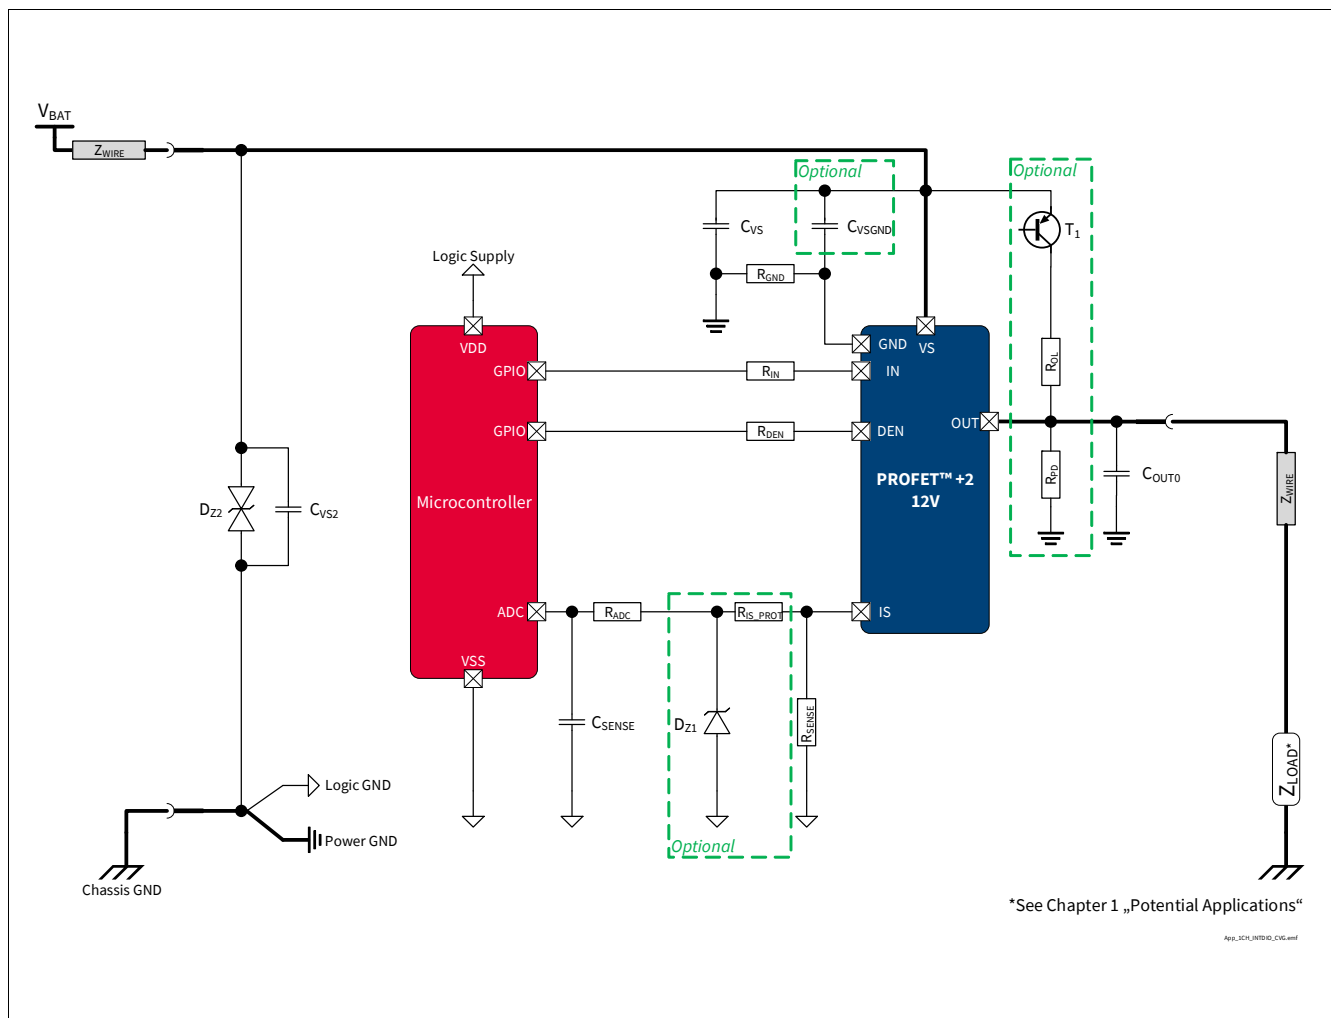
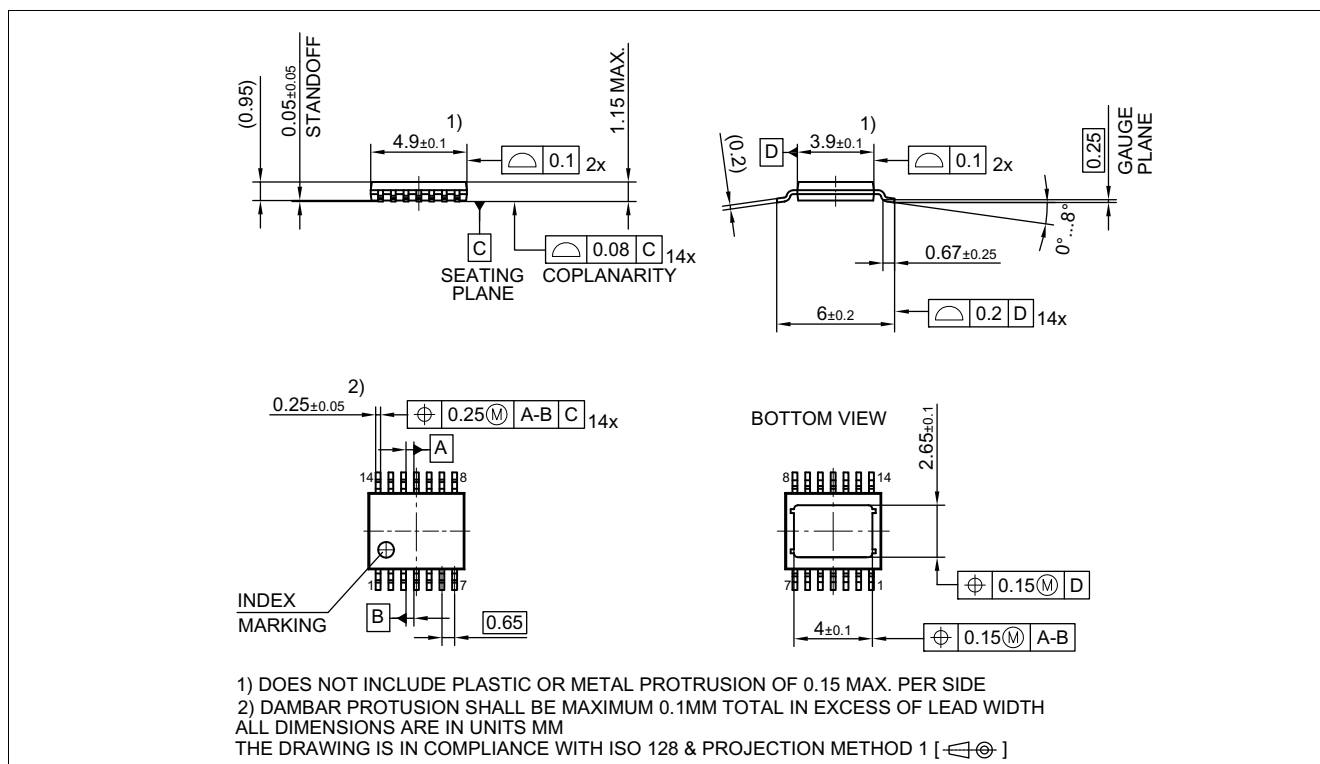
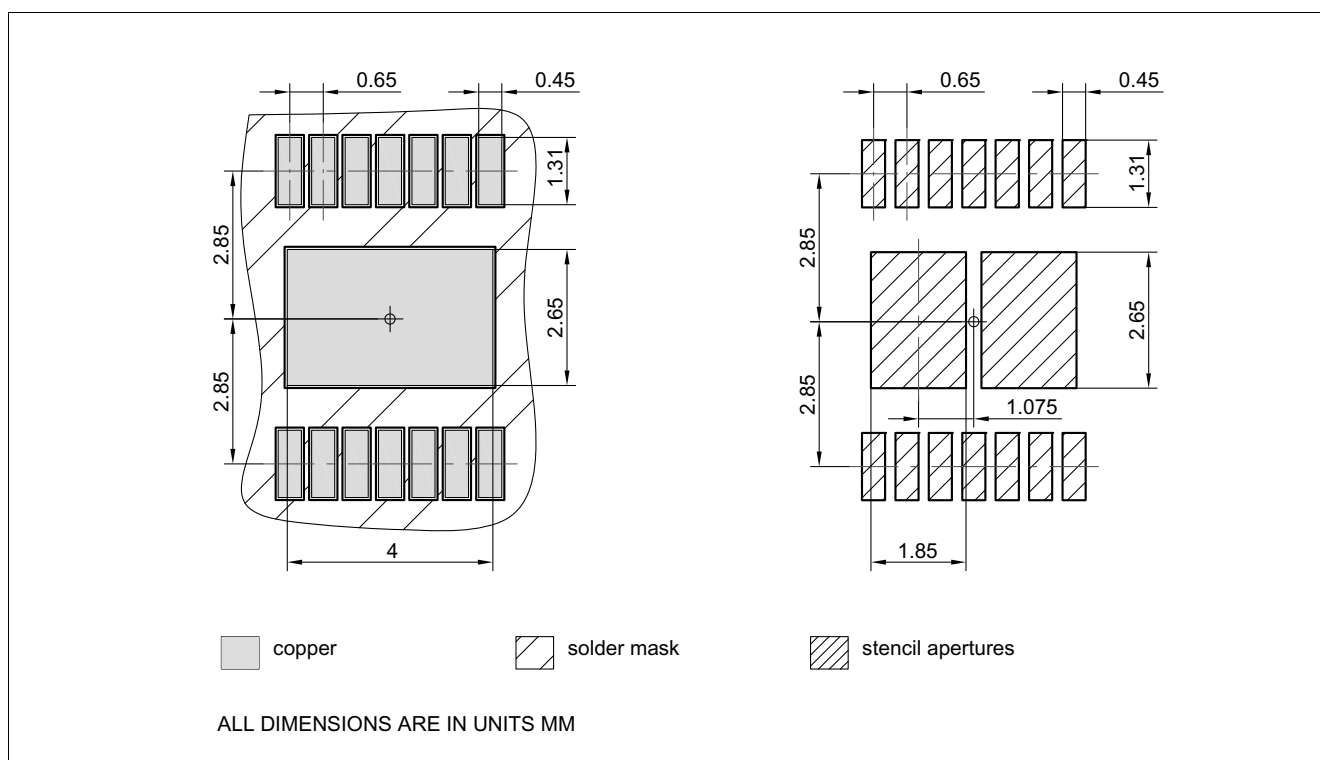

Figure 37 BTS7004-1EPP Application Diagram
Figure 38 PG-TSDSO-14 (Thin (Slim) Dual Small Outline 14 pins) Package Outline
Figure 39 PG-TSDSO-14 (Thin (Slim) Dual Small Outline 14 pins) Package pads and stencil
1.10 , 2020-12-14	Typo fixed (PROFET™+2 → PROFET™ +2) Figure 1, Figure 16, Figure 17, Figure 18, Figure 20, Figure 21, Figure 22, Figure 25, Figure 29, Figure 30, Figure 34, Figure 37 updated Chapter 1, Chapter 6.1, Chapter 6.1.3, Chapter 6.1.4, Chapter 8.2, Chapter 9.2.2 updated Chapter 8.4.1 updated (typo fixed) P_7.4.5.1, P_7.4.5.2, P_7.4.5.3, P_7.4.5.4, P_7.4.5.6, P_7.4.5.7 updated (added in Note or Test Condition: See Figure 15) P_8.6.4.1 updated (added in Note or Test Condition: See Figure 26) P_8.6.4.2 updated (added in Note or Test Condition: See Figure 27) P_9.6.0.6 updated (Parameter: SENSE Operative Range for k_{ILIS} Operation ($V_S - V_{IS}$) → Saturation Voltage in k_{ILIS} Operation ($V_S - V_{IS}$)) P_9.6.0.7 updated (Parameter: SENSE Operative Range for Open Load at OFF Diagnosis ($V_S - V_{IS}$) → Saturation Voltage in Open Load at OFF Diagnosis ($V_S - V_{IS}$)) P_9.6.0.8 updated (Parameter: SENSE Operative Range for Fault Diagnosis ($V_S - V_{IS}$) → Saturation Voltage in Fault Diagnosis ($V_S - V_{IS}$))
1.03 , 2019-10-15	P_6.5.21.1 updated (Typ.: 0.01 μA → 0.05 μA) P_8.7.11.1, P_8.7.11.7, P_8.7.11.8 updated (added in Note or Test Condition: link to Figure 24) P_7.5.11.5 updated (added in Note or Test Condition: see Figure 18) P_7.5.11.12 updated (added in Note or Test Condition: see Figure 20; deleted unnecessary space in Symbol: $dV_{OUT} / dt \rightarrow dV_{OUT} / dt$) P_8.7.11.6 updated (added in Note or Test Condition: see Figure 25) P_9.7.11.1 updated (added in Note or Test Condition: see Figure 32) Figure 1, Figure 37 updated P_4.3.0.7 added Table 22 updated Chapter 5.1 updated (added: see Chapter 10 for the complete application setup overview)
1.01 , 2019-02-05	Figure 9, Figure 10 updated P_7.5.11.10 updated (Min./Typ./Max.: – / – / 10 μA → – / – / 15 μA) Page 1: updated (figure product) Table 22 updated (punctuation) Chapter 9.3, Chapter 9.3.1 updated (typo) Page 1: updated (Package PG-TSDSO-14-22 → Package PG-TSDSO-14) Figure 38 updated (PG-TSDSO-14-22 (Thin (Slim) Dual Small Outline 14 pins) Package Outline → PG-TSDSO-14 (Thin (Slim) Dual Small Outline 14 pins) Package Outline) Figure 39 updated (PG-TSDSO-14-22 (Thin (Slim) Dual Small Outline 14 pins) Package pads and stencil → PG-TSDSO-14 (Thin (Slim) Dual Small Outline 14 pins) Package pads and stencil) Table 1 updated (Parameter: Minimum Overvoltage protection ($T_J = 25\text{ }^\circ\text{C}$) → Minimum Overvoltage protection ($T_J \geq 25\text{ }^\circ\text{C}$)) Table 1 updated (Symbol: $I_{\text{VS(OFF)}}$ → $I_{\text{VS(OFF)_85}}$) P_6.5.21.1 updated (Symbol: $I_{\text{VS(OFF)}}$ → $I_{\text{VS(OFF)_85}}$) P_6.5.21.2 updated (Symbol: $I_{\text{VS(OFF)}}$ → $I_{\text{VS(OFF)_150}}$) P_4.2.11.3 updated (Note or Test Condition: → -) Figure Application Diagram, Figure 29, Figure 37 updated P_4.1.0.21, P_4.1.0.22, P_4.1.0.23, P_4.1.0.24 updated (footnote ESD standards) Table 1 updated ($R_{\text{DS(ON)}}$ → $R_{\text{DS(ON)_150}}$), ($V_{\text{DS(CLAMP)}}$ → $V_{\text{DS(CLAMP)_25}}$) Chapter 8.5.2 updated (phrasing) Chapter 6.4, Chapter 7.5, Chapter 8.7, Chapter 9.6 updated (added conditions) Figure 28 updated (Over Load → Overload, deleted bow) P_9.6.4.8, P_9.6.4.9 updated (removed line before the footnote)